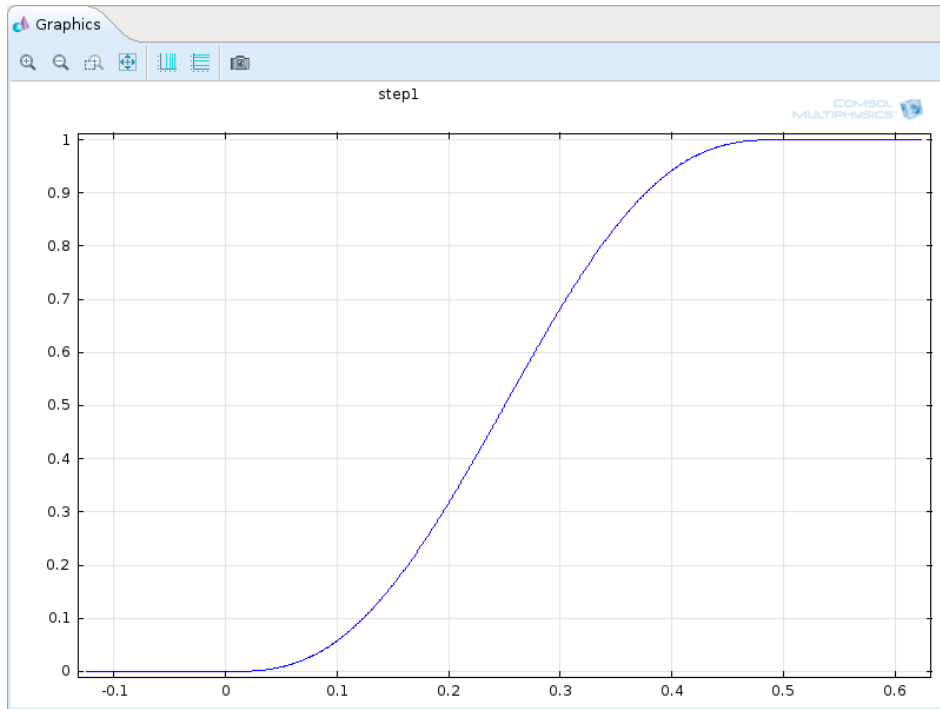

Figure 2: The step function
- 4 Click the *Plot* button. The result is in the Fig. 2.